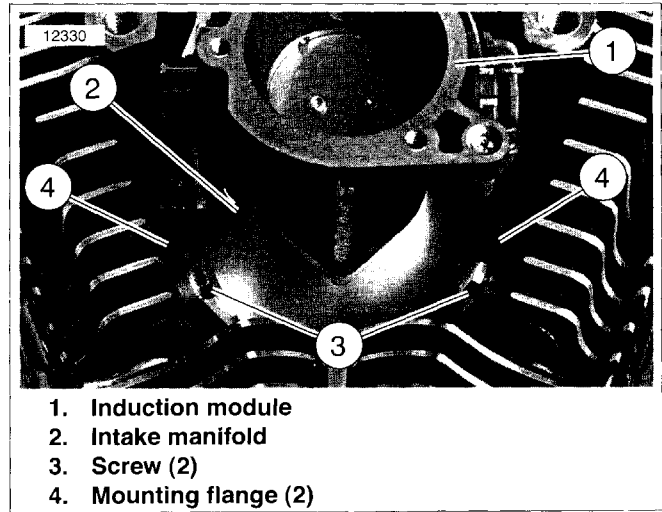

**Figure 4-38. Idle Control Cable Adjustment**
9. See Figure 4-38. Slide rubber boot off idle control cable assembly (1).
10. Loosen jam nut (3).